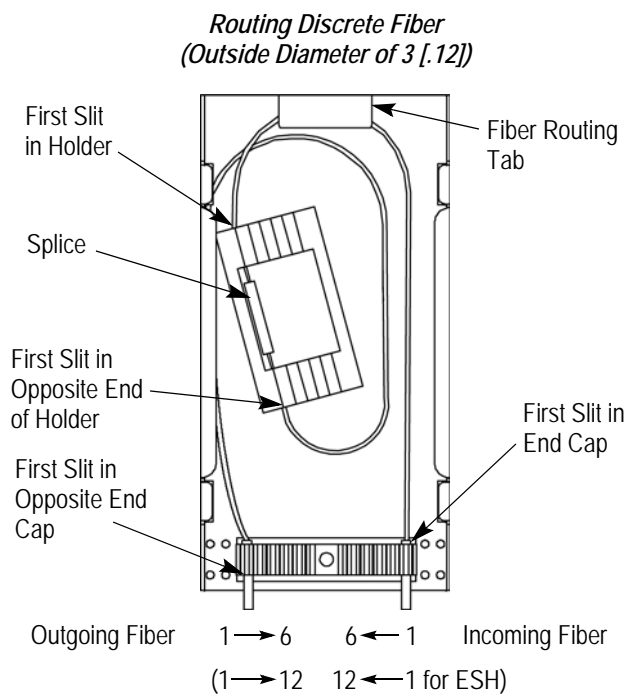

Figure 6
1. Remove approximately 457 [18] of the outer jacket from the incoming fiber, and fit the fiber into the first slit (slit closest to the side of the tray) in either end cap. Refer to Figure 6.
3. Remove approximately 457 [18] of the outer jacket of the outgoing fiber, and fit the fiber into the first slit (slit closest to the side of the tray) in the opposite end cap. See Figure 6.
5. Splice the fibers according to local practices. Fit the incoming fiber into the first (outermost) slit in the holder, and fit the outgoing fiber into the first (outermost) slit in the opposite end of the holder. Position the splice in the cutout in the holder. See Figure 6.